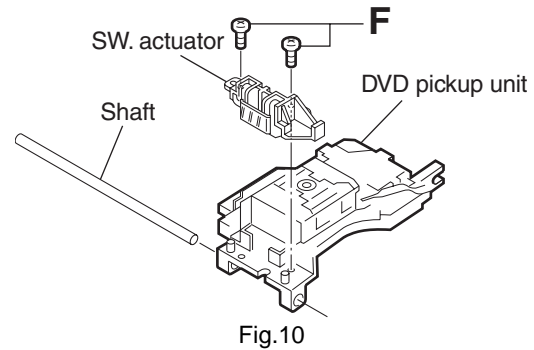

Fig.10
- (4) Pull the shaft out of the DVD pickup unit. (See Fig.10.)
- (5) Remove the two screws **F** attaching the SW. actuator. (See Fig.10.)
- (1) Attach the SW. actuator and shaft to the DVD pickup unit. (See Fig.10.)